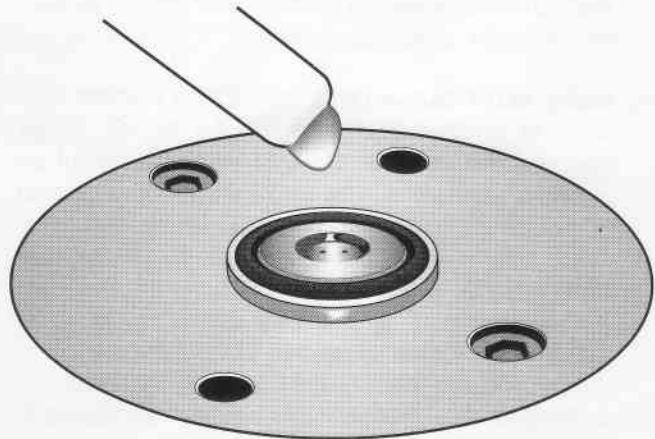

FIGURE 5
1. Using a dropper, release cleaning solution (10% ammonium hydroxide, reagent grade acetone, or a mild detergent solution) onto the central depression of the thermocouple mount as shown in FIGURE 5. The surface of the mount inside the O-ring and the top of the O-ring should be covered by the solution. Avoid filling the O-ring groove with solution.